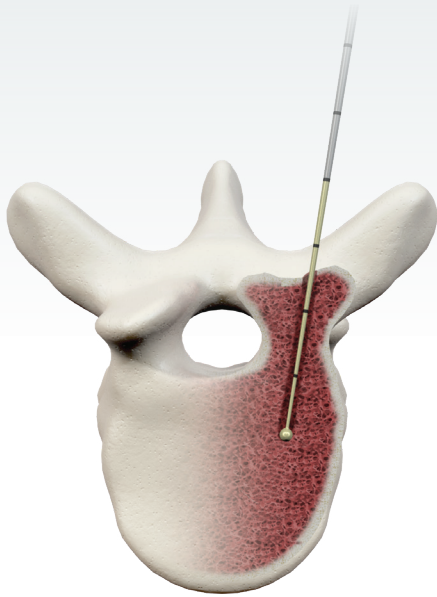

Figure 4
- Use a ball-tipped, sounding probe to confirm that the pedicle has not been breached and that the depth is appropriate (**Figure 4**).